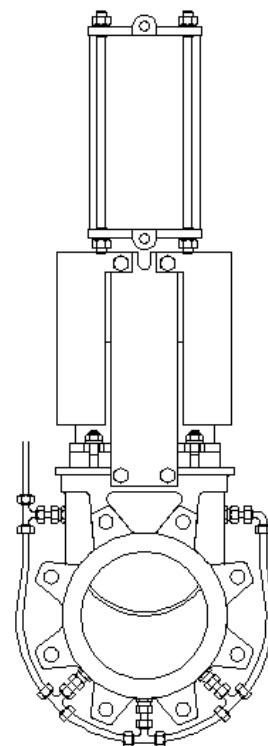

fig. 8
**Holes in the body (Fig. 8):**